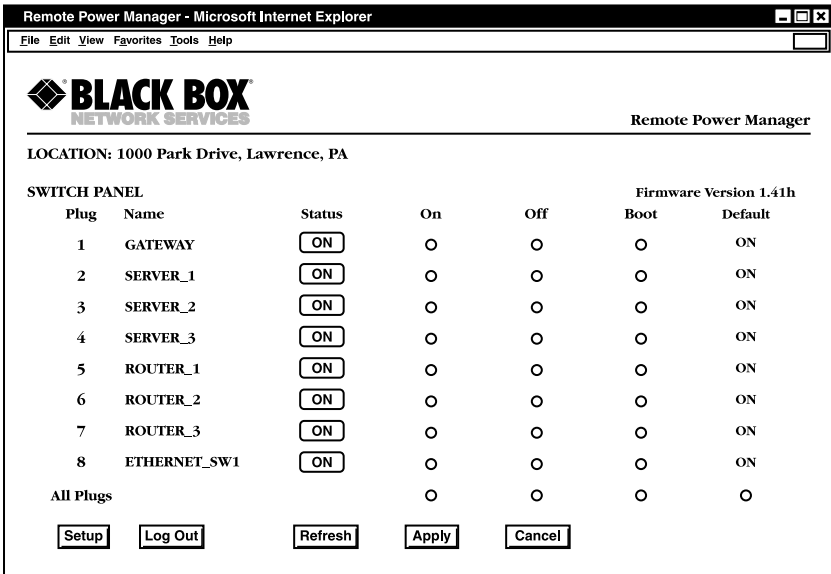

Figure 3. Plug Status screen—Web-browser interface for PS568A and PS582A.
- a) From the Web-browser interface, start your JavaScript enabled Web browser. Enter the Rackmount Remote Power Manager's default IP address (`http://192.168.168.168`) in your browser's address bar, then press **[Enter]**. A password prompt will be displayed. Since at this point the user name and password have not yet been defined, simply click on **OK** without typing in a user name or password. The Rackmount Remote Power Manager's Plug Status screen appears as shown in Figure 3.